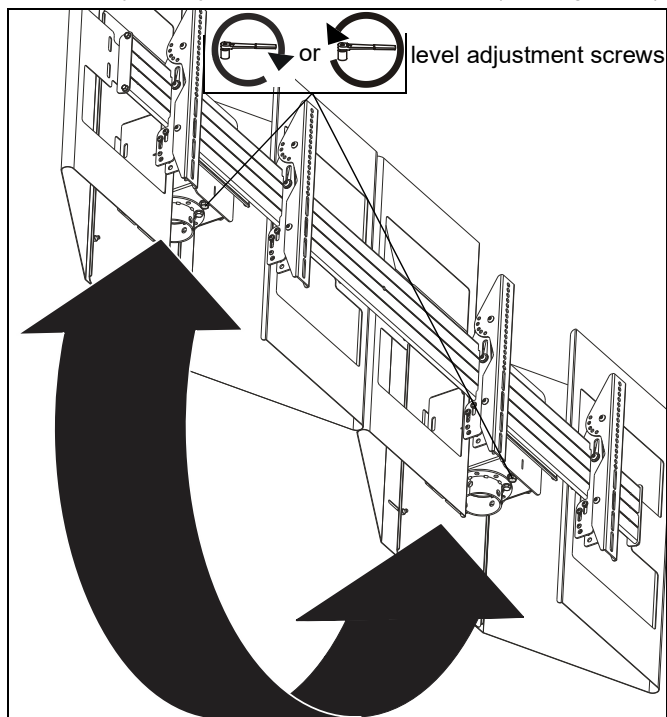

Figure 21
1. Adjust level adjustment screws to change roll position. The roll may be adjusted 1" in either direction. (See Figure 21)